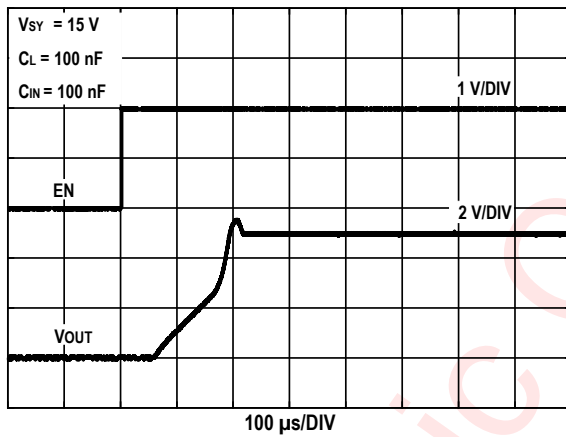
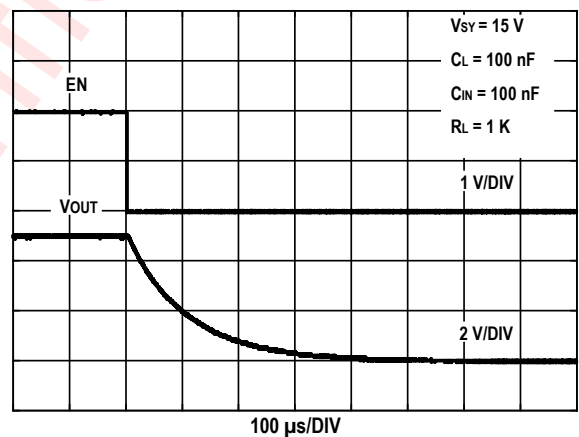

Figure 13. Enable response
Figure 14. Disable response
For power consumption sensitive applications, AWS750XX offers useful shut down feature. The part burns just $10\mu\text{A}$ in shutdown mode, the shutdown procedure can be found in **Figure 13** and **Figure 14**. Shutdown mode is controlled by pin 3 (EN). The voltage threshold of this pin is around 1.2V and compatible with CMOS/TTL logic.